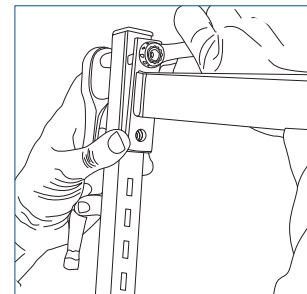

Fig. 4
1. Using the provided nuts and bolts, attach the cross bars (PART 2 or 3) to the top and bottom of one Frame (PART 1). Assemble all four (4) cross bars to the frames (Fig.4)